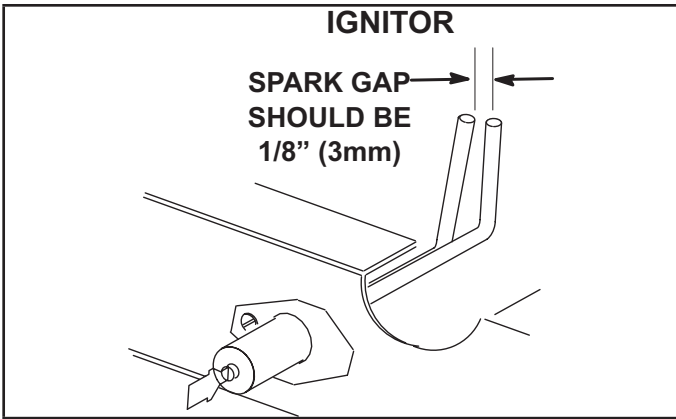

FIGURE 46
- 4 - Locate the ignitor under the left burners. Check ignitor spark gap with appropriately sized twist drills or feeler gauges. See FIGURE 46.
- 5 - Check the alignment of the ignitor and the sensor as shown in FIGURE 46 and TABLE 25.